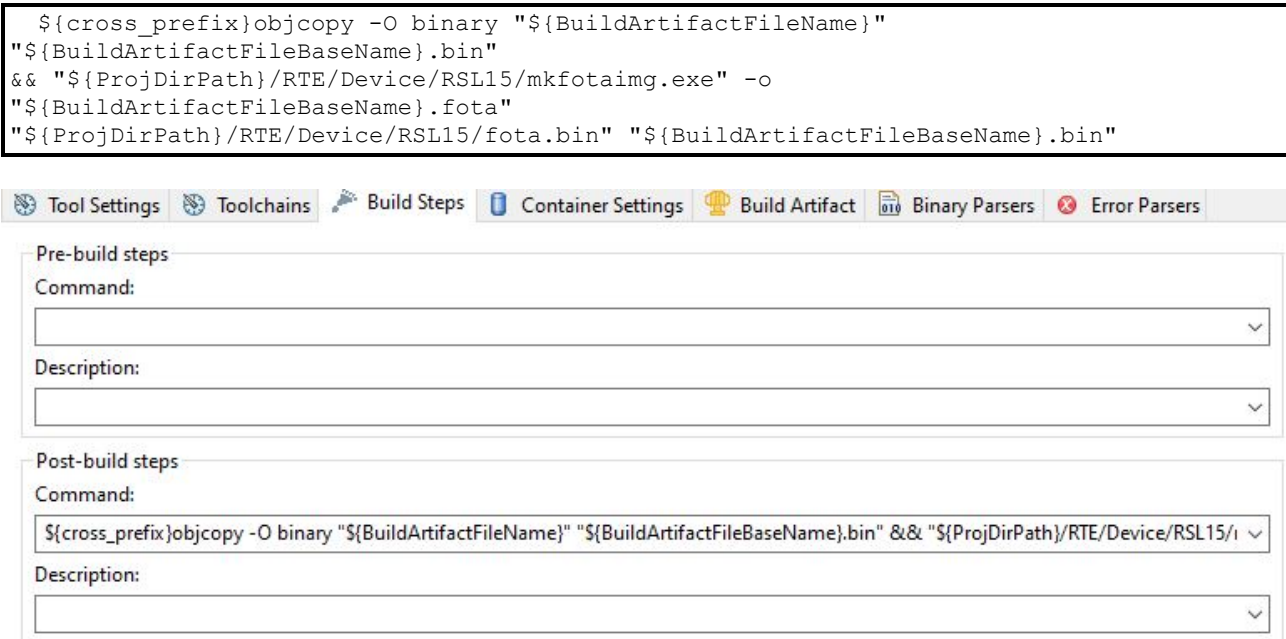

Figure 18. Post-Build Steps
- Modify the project post-build steps (see the figure "Post-Build Steps" \(Figure 18\)) to generate the FOTA image in both Debug and Release build configurations, by going to **Project > Properties > C/C++ Build > Settings > Build Steps > Post-build steps**. Two steps are required to generate the *.fota* image. First, we need to generate the application sub-image *.bin* file using *objcopy*. Then, we use the *mkfotaimg.exe* tool to generate the FOTA image (*.fota* file). Both commands can be concatenated with `&&` and added to the post-build steps as in the example that follows. To use this command, copy the code from the **Post-Build steps** of the existing sample application *ble_peripheral_server_fota*, as the code in the text below is not directly copyable.